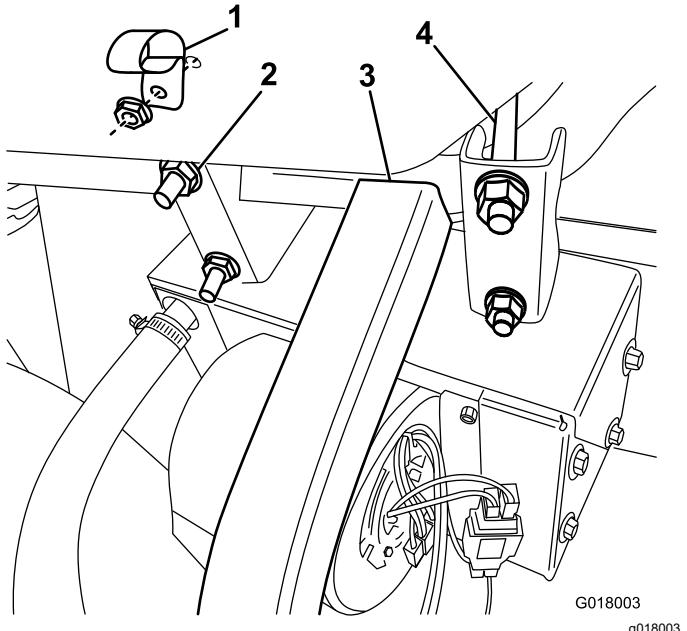

Figure 23
- For 2015 and older machines—Attach the heater and bracket assembly onto the front frame tube, snug against the U-frame, using the U-bolts and flange nuts provided (Figure 23).
5. Attach the R-clamp to the glove box with a flange-head bolt and nut (Figure 23).